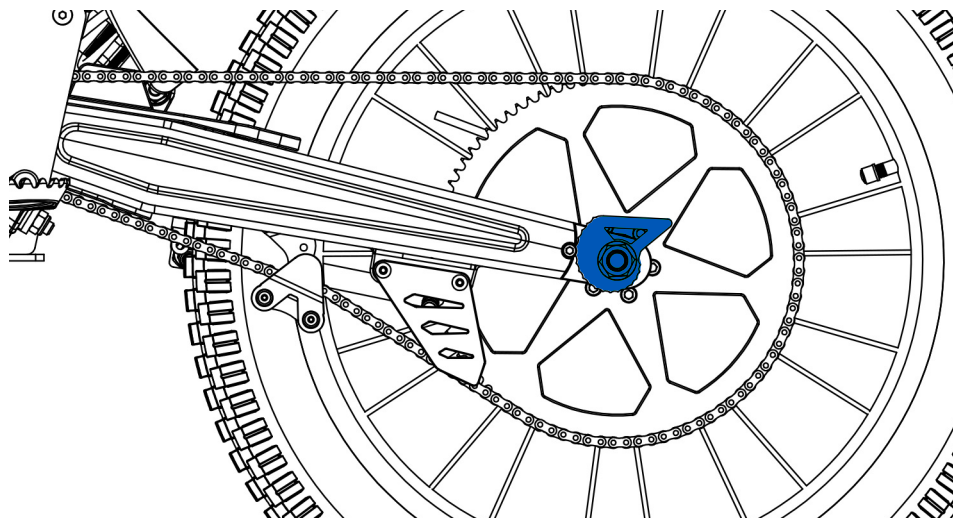

Fig. 13
- 3- The eccentric adjuster (Fig. 13) must be turned to a position depending on the chain slack and the correct tension must be obtained. It must be ensured that the stop is located between the teeth of the eccentric adjuster and the two sides equally. These components must be placed in the appropriate position according to the required tension level.
Fig. 13 shows the configuration corresponding to the minimum position of the wheel, which must be maintained until half of the travel is reached.